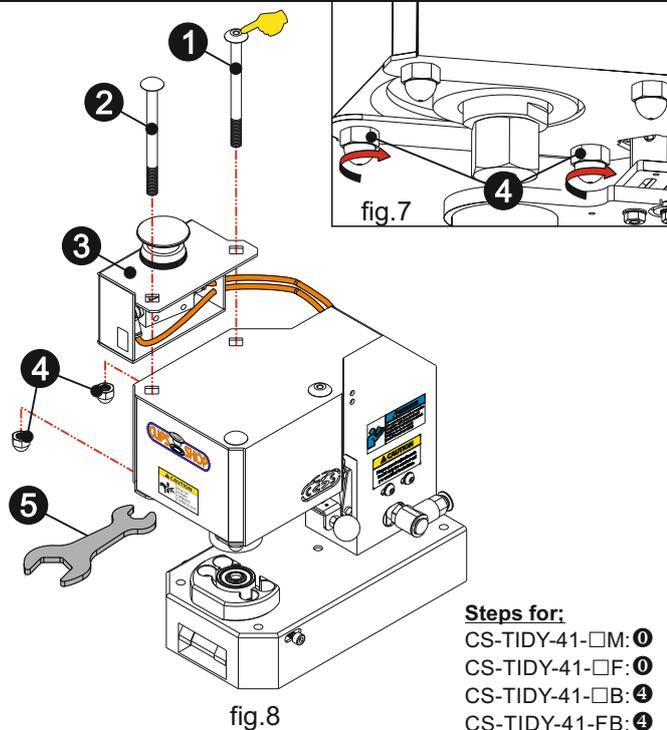

fig.8
- CS-TIDY-41-□M: ①
- CS-TIDY-41-□F: ①
- CS-TIDY-41-□B: ⑤
- CS-TIDY-41-FB: ⑤
4) Poke the bolt with the threaded top ① and the other bolt ② through the hole on the Start Button Box and the machine body. The bolt with the threaded top ① and the other bolt ② should be located at the rear and the front part respectively. Attach the nuts ④ to the end of the bolts ① ② manually (fig. 7). Tighten them securely by using the wrench ⑤ comes with the machine (fig. 8).